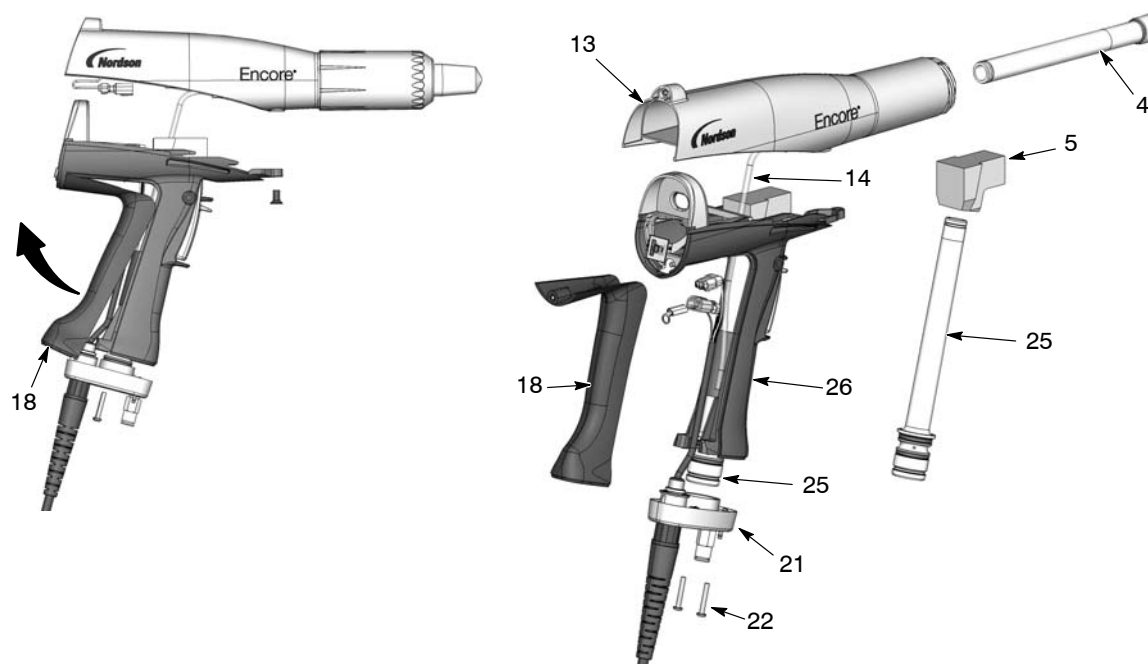

Figure 6-5 Powder Path Replacement
2. See Figure 6-5. Remove the elbow (5) from the inlet tube (25).
3. Remove the two M3 x 20 screws (22) from the handle base (21).
4. Pull the base away from the handle, then swing the bottom of the ground pad (18) up and away from the handle, then remove it. Leave the ground wire connected to the ground pad.
5. Push the inlet tube (25) up and out of the base, then move the base out of the way and pull the inlet tube out of the handle.
6. Push the outlet tube (4) out of the front of the gun body (13).
1. See Figure 6-5. Install the outlet tube (4) into the gun body (13), with the end of the tube flush with the end of the gun body.
2. Install the inlet tube (25) into the handle (26), then install the end of the tube into the handle base (21).
3. Push the handle base close to the handle, then hook the top end of the ground pad (18) into the body and rotate it onto the handle. Make sure the cable wires are not pinched or trapped during re-assembly.
4. Install the handle base onto the handle and ground pad and secure it with the two M3 x 20 screws (22).
5. Install the elbow (5) onto the inlet tube, with the end oriented toward the front of the gun as shown.